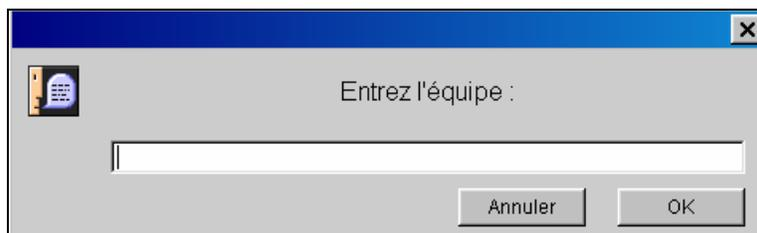

Figure 6: Enter the team code or the number of the Technical Engineer
**Team:** click in the text field. A dialogue box appears. Enter the team letter and confirm (figure 6).